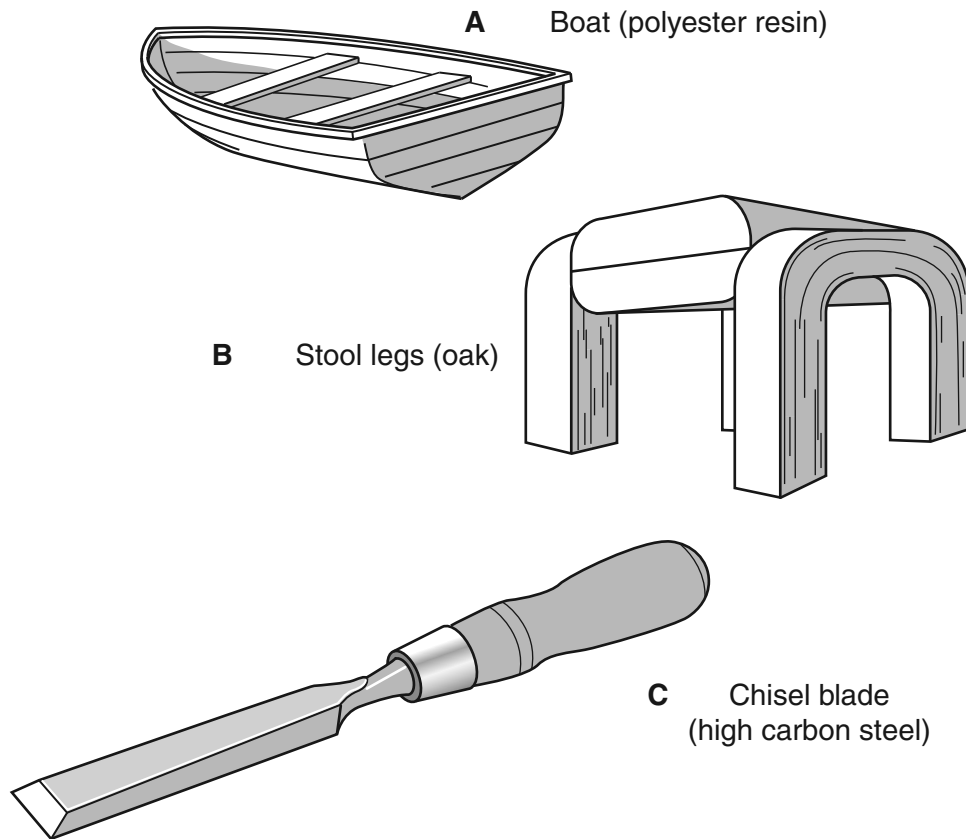

Fig. 7
- 13 Fig. 7 shows three products for which each of the materials has been modified during manufacture to improve its properties.
- (a) Describe briefly how each of the materials in Fig. 7 has been modified to improve its strength. [6]